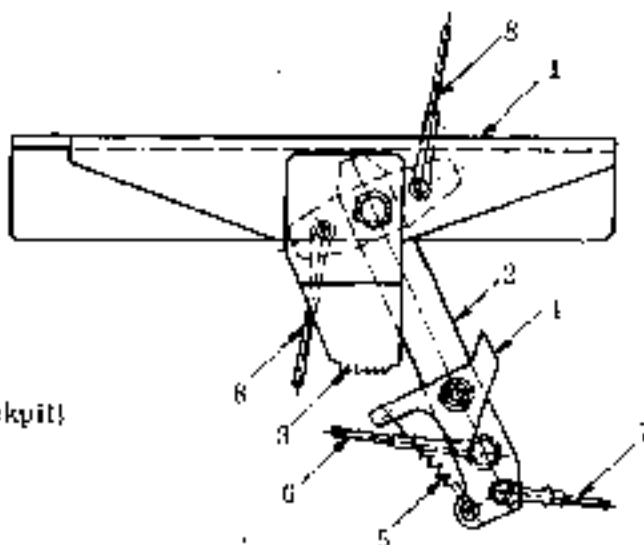
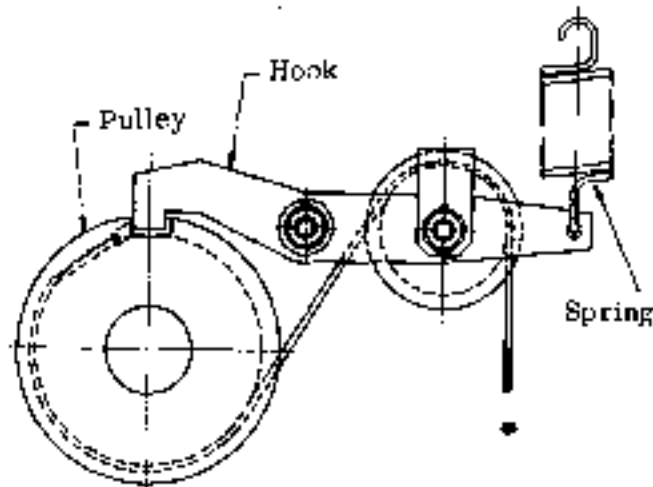

Fig. 4-51 Reset after emergency gear extension
Fig. 4-52 Put hook in pulley groove
- (1) Jack up the airplane.
- (2) Retract landing gear.
- (3) Pull emergency handle to the extent of small lever coming off.
- (4) Remove access door (F. STA. 4025 ~ 4285) between keels and check the following items.
- (a) Claw on the center lever engages with ratchet teeth. (Fig 4-51).
- (5) L. H. and R. H. clutches which release main gear forward doors, do not reach the ends of their travels.
- (6) Clearances between hooks and rollers in forward and aft doors should be more than 0.08 in. (2 mm).
- (7) Perform emergency gear extension operation and check the following items.
- (8) Adjustments of Para. (5) and (6) above are made by means of cable detaining fitting.
(1) Reset of cable assembly.
- (b) Remove access door (F. STA4025~4285) between keels and return the center lever up to the position where claw disengages (See Fig 4-51).
(2) Reset of clutch assembly.
- (c) Push up hook to stop, and return pulley while winding back clutch cable (See Fig. 4-52).